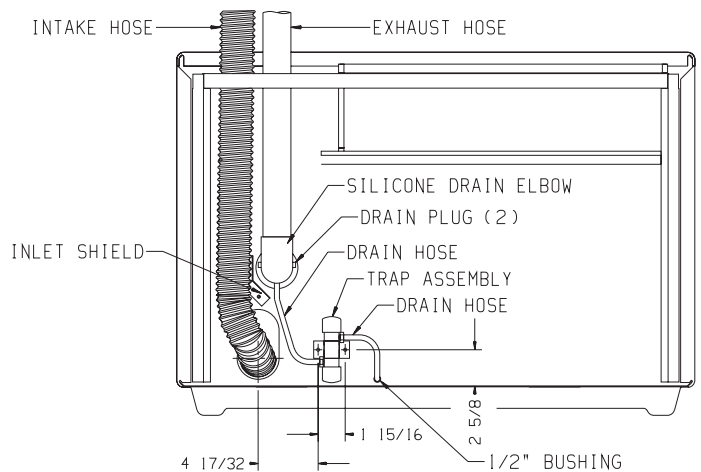

Figure 7
1. For a vertical vent run, in a heated room [10 ft. (3m) or more for DV-40E-(1, 3) or 6 ft. (1.8m) or more for DV-20E-(1, 3)], you should purchase condensate drain kit, part number DV-1108. You can route the condensate from the condensate drain kit to an existing drain or into the condensate drain pan located within the appliance. **See Figure 7.**